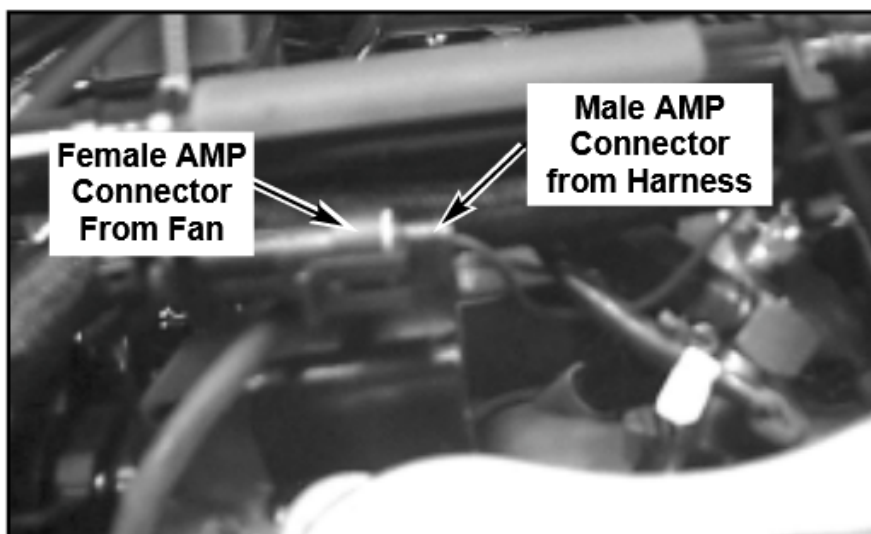

Figure 10. Connect Harness to Fan
16. See Figure 10. Connect the two-pin male AMP connector from the harness to the Female AMP connector coming from the fan.